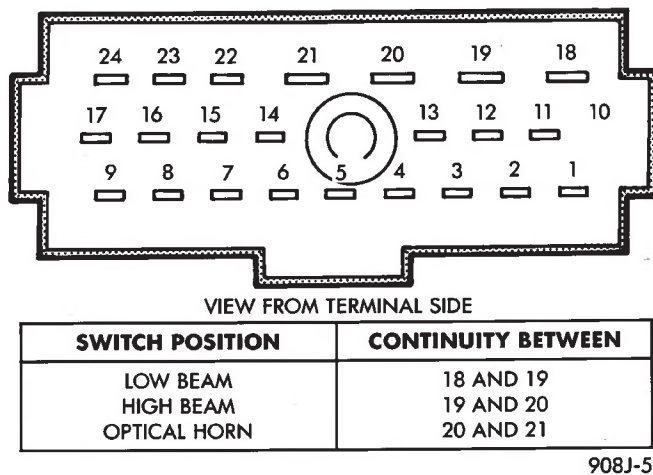

Fig. 5 Dimmer Switch Continuity Chart
(10) Use an ohmmeter to test for continuity between the terminals of the switch as shown in the continuity chart (Fig. 5).
(11) Refer to Service Procedures for assembly.